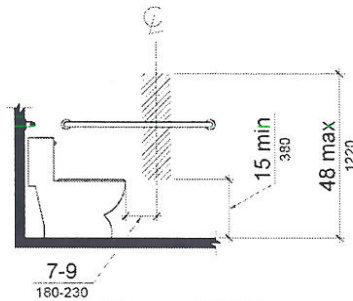

Figure 604.7
7. **604.7** Toilet paper dispensers shall comply with Figure 604.7.